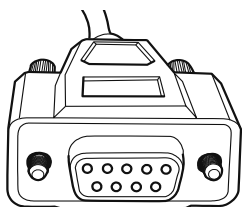

Figure 1
1. Plug in the Q-Logic™ Handheld Programmer to the Q-Logic™ ED (Enhanced Display) or to the standalone joystick if SCIM (Specialty Control Input Module — Figure 1) is in use.